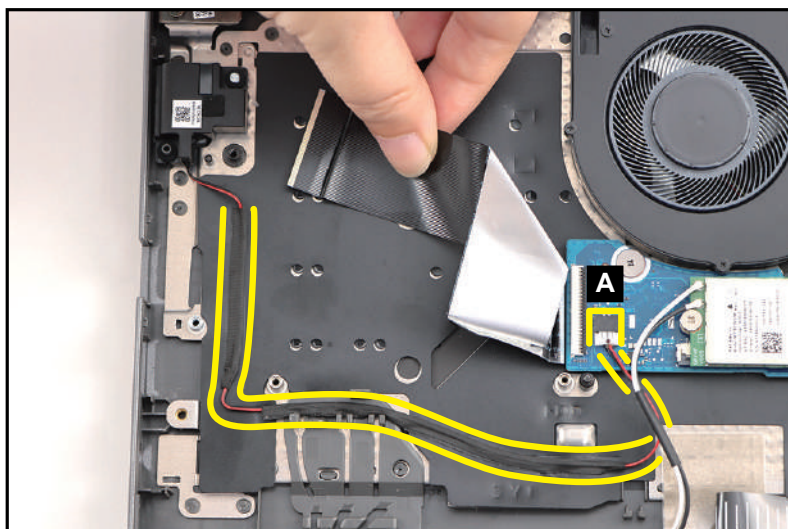

Figure 3-58. Right Speaker Removal
1. Disconnect the right speaker cable from the mainboard connector (A). Then unrout and detach the cable from its underneath adhesive as shown in Figure 3-58.